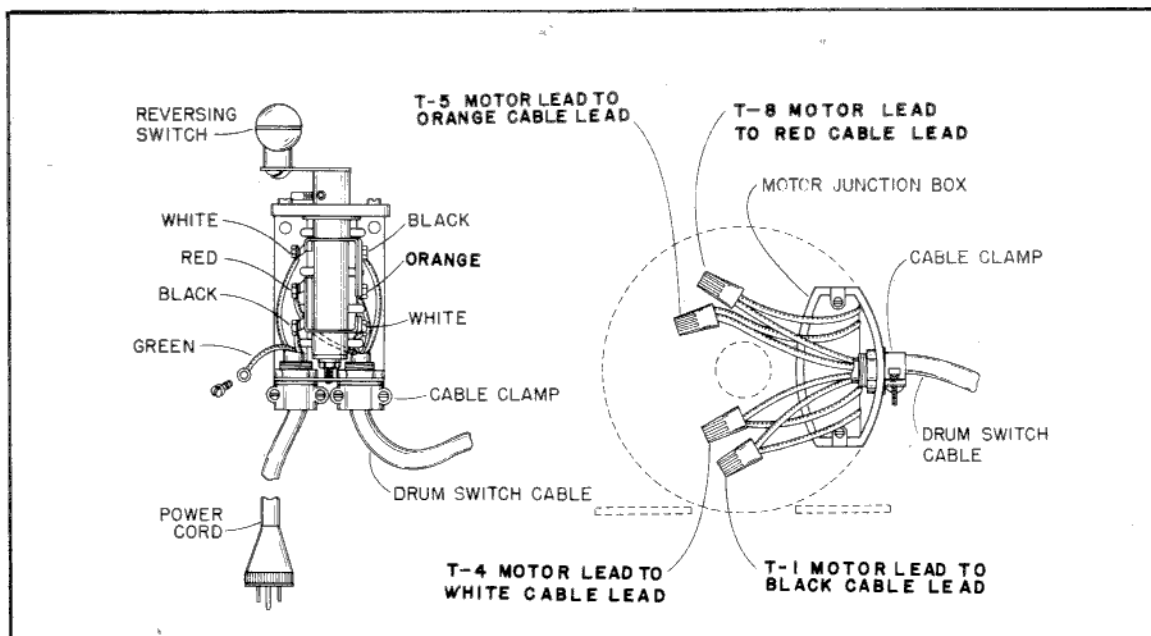

Fig. 13
3. Connect the colored wires of the switch cord (striped end) to the switch. (See Fig. 13).
4. Connect the black and white wires of the power cord to the switch and the GREEN wire to the left side of the switch box using one of the screws that holds the cover, (See Fig. 13). Replace switch cover.
5. Remove the junction box cover from the end of the motor and attach the other end of the drum switch cable to the cable connector in the motor. (See Fig. 13).
6. Connect the colored wires of the drum switch cable to the motor as shown in Fig. 13. Strip the wires back 1/2", twist together, and screw on the wire nuts (plastic connectors) and replace cover.